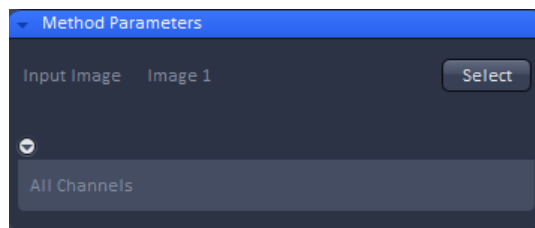

Fig. 396 Methods Parameter of the Copy Duplicat Processing tool
- Duplicate the time series. Select the time series in the processing tool **Copy** under the submenu **Duplication** (Fig. 396). Press **Apply** to obtain a copy from your time series.